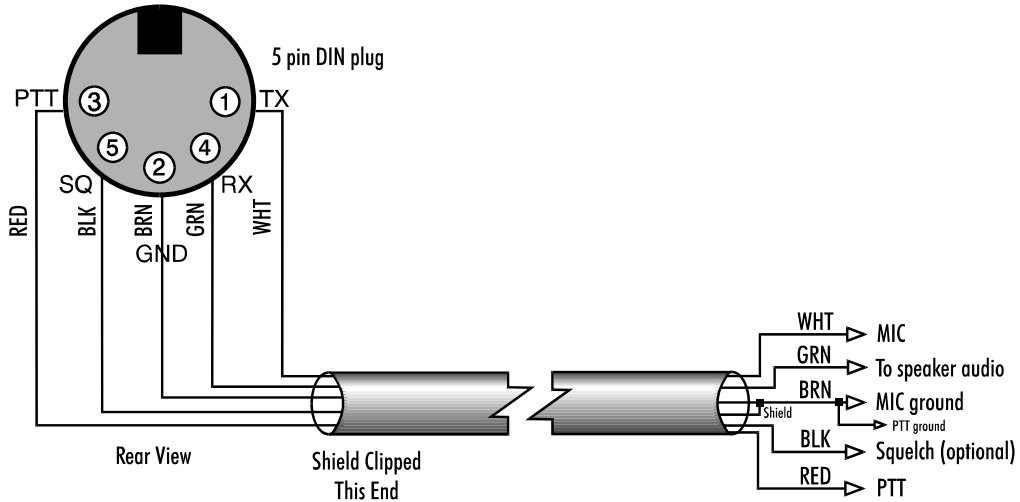

Figure 3-4 Radio-to-DSP Radio Port 1 Connections
- Verify that your DSP and FM radio(s) are connected as shown in Figure 3-4 and/or 3-5 or 3-6 below.